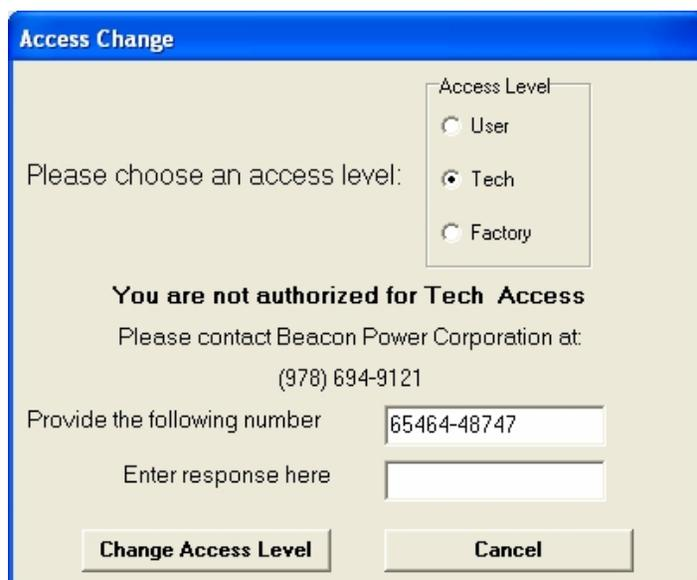

Figure 12: Changing to Technician Access Level
ACCESS LEVEL: Initiates the window that enables the user to view and change his/her access level. Higher access is required for certain M4/M5-Plus maintenance operations and to modify setpoints. To reach higher access levels you must call Beacon Power customer service at (978) 694.9121 or Toll-Free: (888) 938.9112 and provide the ten-digit number that automatically appears upon choosing one of the higher access level radio buttons. For example, if you were attempting to get technician level access, SP Monitor would generate a screen similar to the one depicted in Figure 12. You would then call Beacon Power and provide them with the number 65460-65412 (this number is randomly generated each time you try to change access level). Beacon Power would then give you a key (another number) that you would type into the response box. After clicking on the *Change Access Level* button, temporary access to technician level is granted.